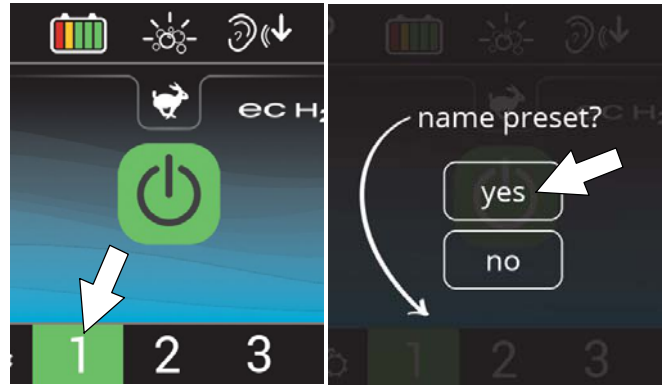

FIG. 65
2. Then press and hold a zone button until a screen prompts you to name the new preset zone. Select "yes" to name the preset zone (Figure 65).